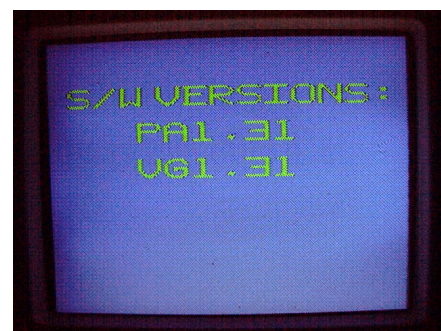

Figure 2-11- Software Version Display
- Hold the **DOWN** button until the **SOFTWARE VERSION** appears on the screen (Figure 2-11).